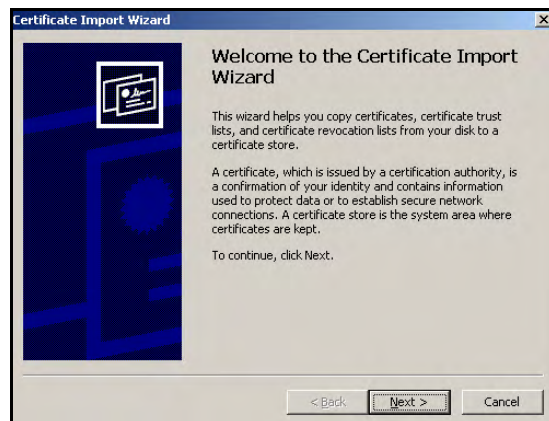

FIG. 57 Certificate Import Wizard
6. The user is then presented with a Certificate Import Wizard that begins the process of adding the certificate (FIG. 57).